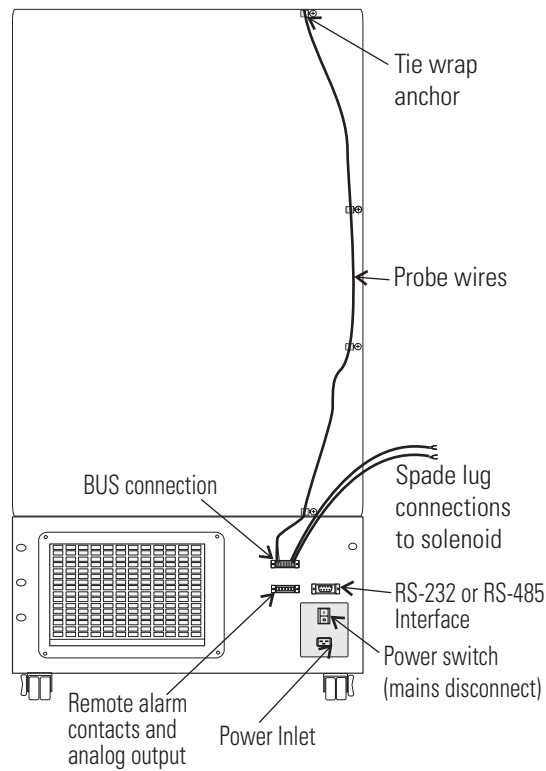

Figure 5-5. Routing
1. Remove the four screws on the freezer back panel and use them to mount the tie wrap anchors as shown in Figure 5-5. Secure the probe wire with tie wraps.
4. Connect power to the freezer. Turn the freezer On, with battery switch Off (O).